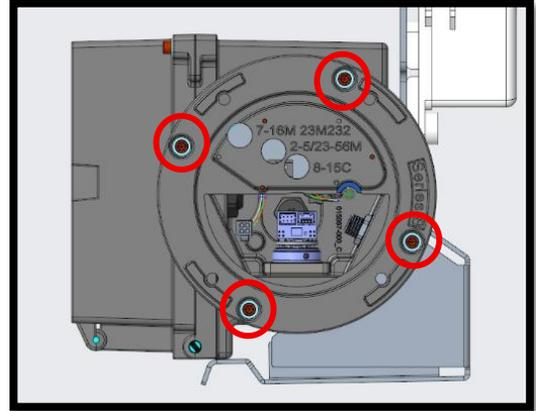

Figure 9: Replace screws on the adapter plate
- c. Use the 9/64" Allen or hex wrench to replace the four (4) screws and their washers on the meter adapter plate, (refer to Figure 9). Insert and tighten the screws in a crisscross pattern to 20-inch pounds.